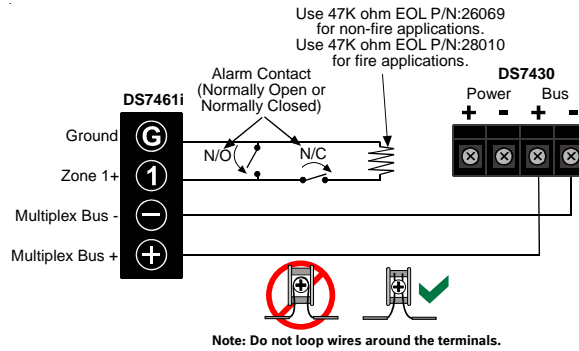
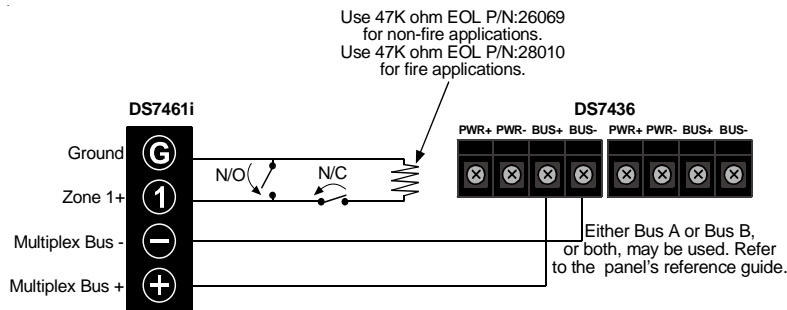

Figure 3: Wiring to a DS7430 Multiplex Expansion Module
Figure 4: Wiring to a DS7436 Multiplex Expansion Module
- Connect wiring to the DS7461i as shown in *Figure 3* and *Figure 4*.